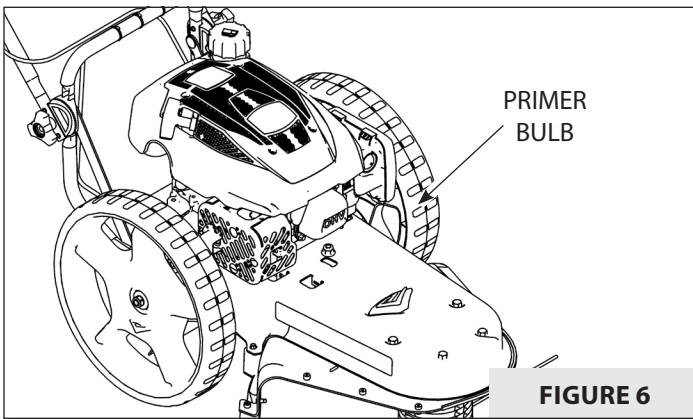

FIGURE 6
1. Push the primer bulb three times. Wait approximately two seconds between each push. **SEE FIGURE 6.**
2. Set ON/OFF (I/O) Switch to ON (I).
3. To start a cold engine, push the primer bulb three times. Wait two seconds between each push of the primer bulb. **SEE FIGURE 6.**